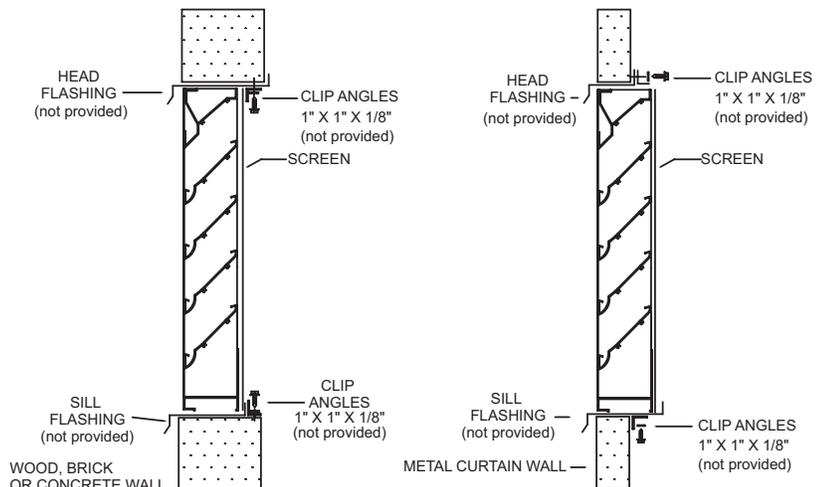

Figure 2
3. Install head and sill flashing (not provided) if needed in wall opening as per Figure 2.
4. Use clip angles (not provided) to attach frame to walls as per Figure 2.